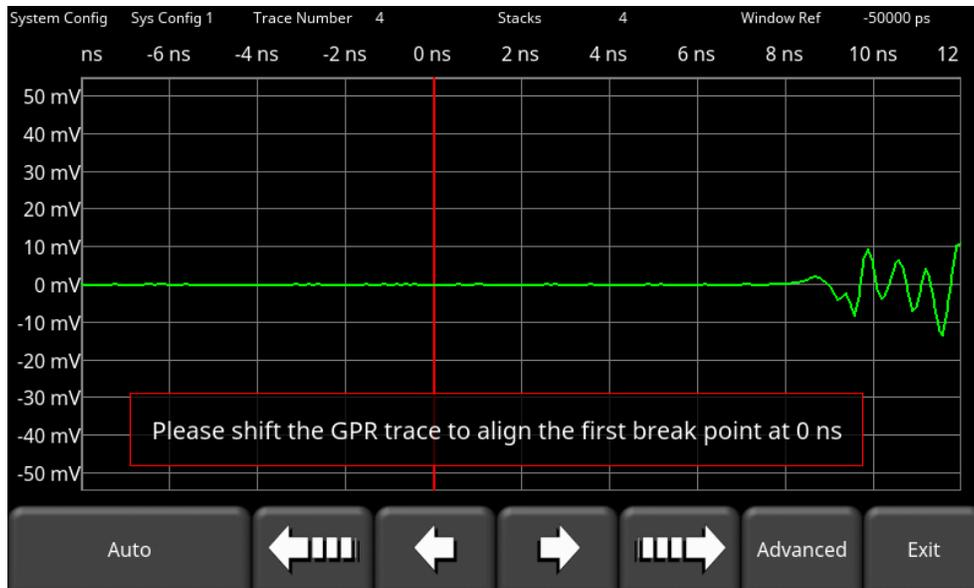

Figure 5-30: Scope mode before First Break correction
■ It is highly recommended to run Scope Mode before collecting any data. When you enter Scope Mode, you will see a screen similar to Figure 5-30.